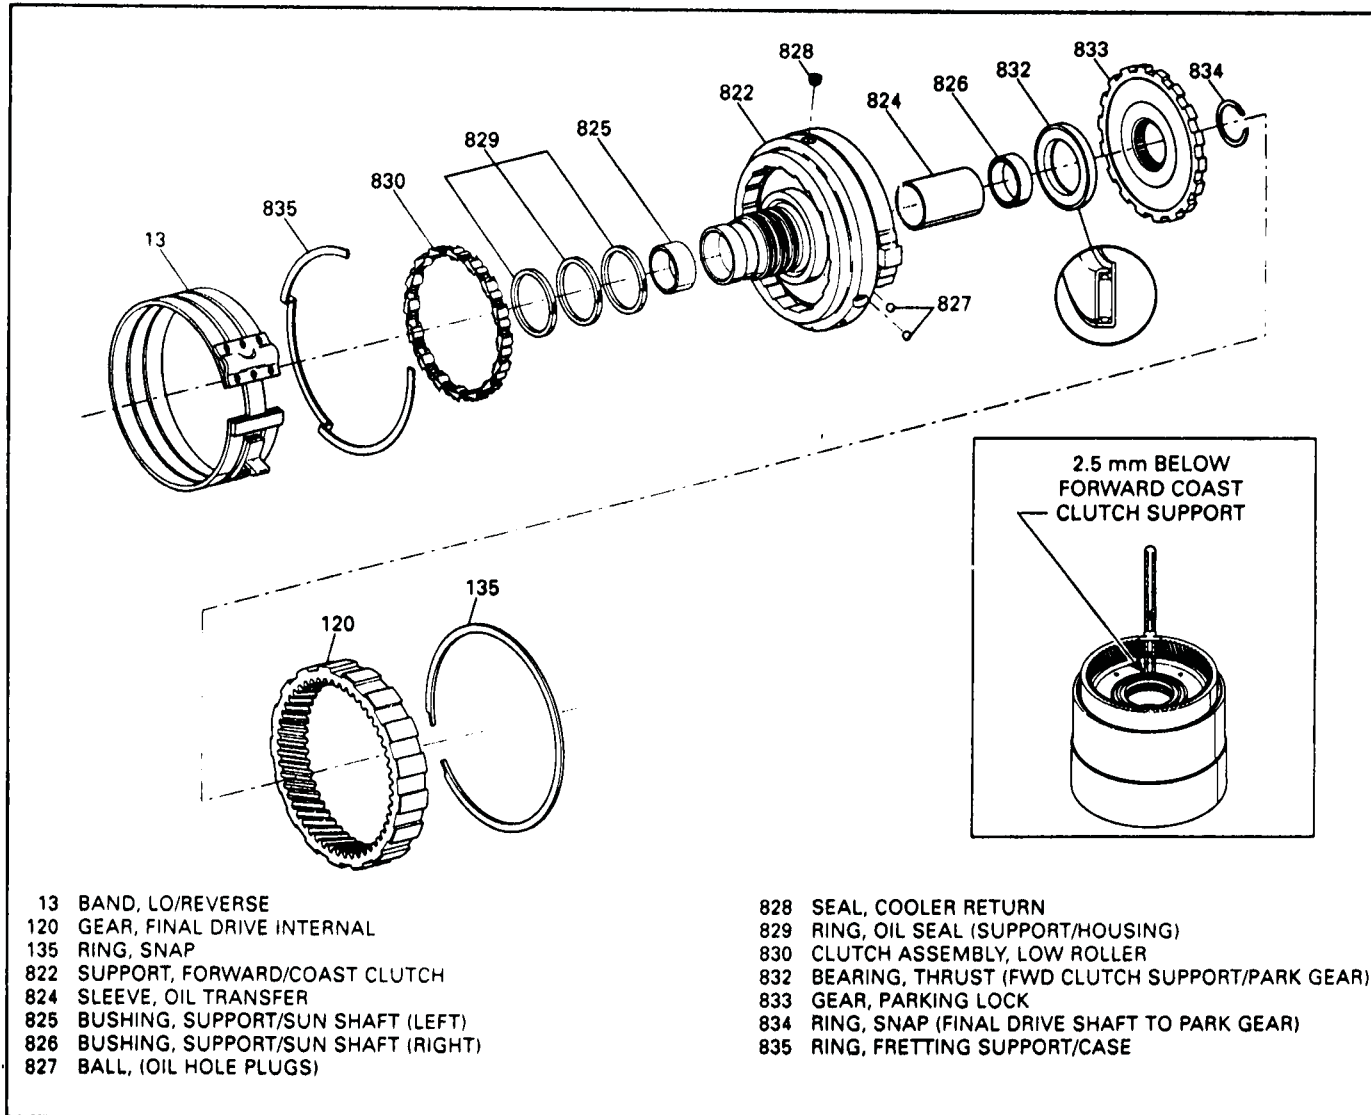

Figure 73
1. Remove and discard the 3 oil seal rings on the support assembly (See Figure 73).
2. Remove and discard cooler return seal (828) from support assembly as shown in Figure 73.
3. Inspect all components shown in Figure 73, for any wear and/or damage.
4. Install a new cooler return seal into the support assembly using appropriate size socket (See Figure 73).
5. Install 3 new oil seal rings onto the support and lubricate with small amount of TransJel (See Figure 73).
(See Inset in Figure 73).